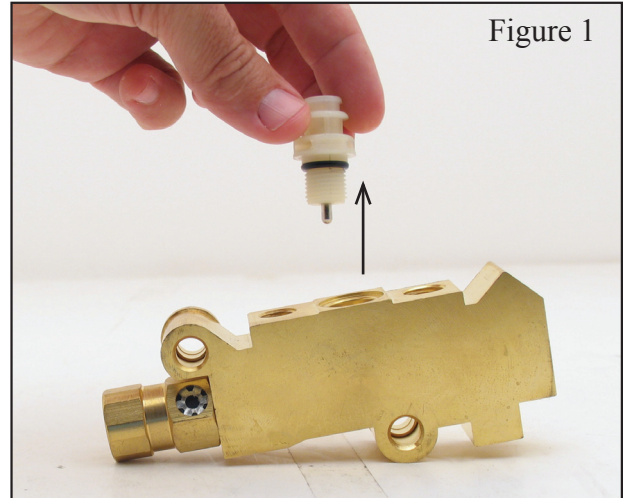

Figure 1
2. Remove the brake pressure sensor warning light switch. You may need to use a wrench to loosen it. Once loose you should be able to easily unscrew it with your fingers (Figure 1).